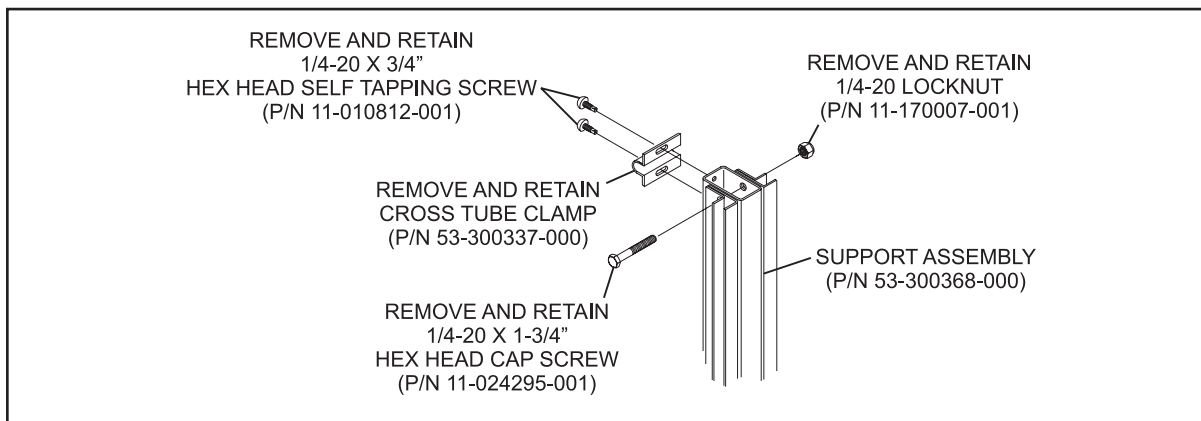

Figure 12
1. Remove cross tube clamp and retain for reinstallation during the “Intermediate Support Installation” further along in the installation. Refer to *Figure 12*.